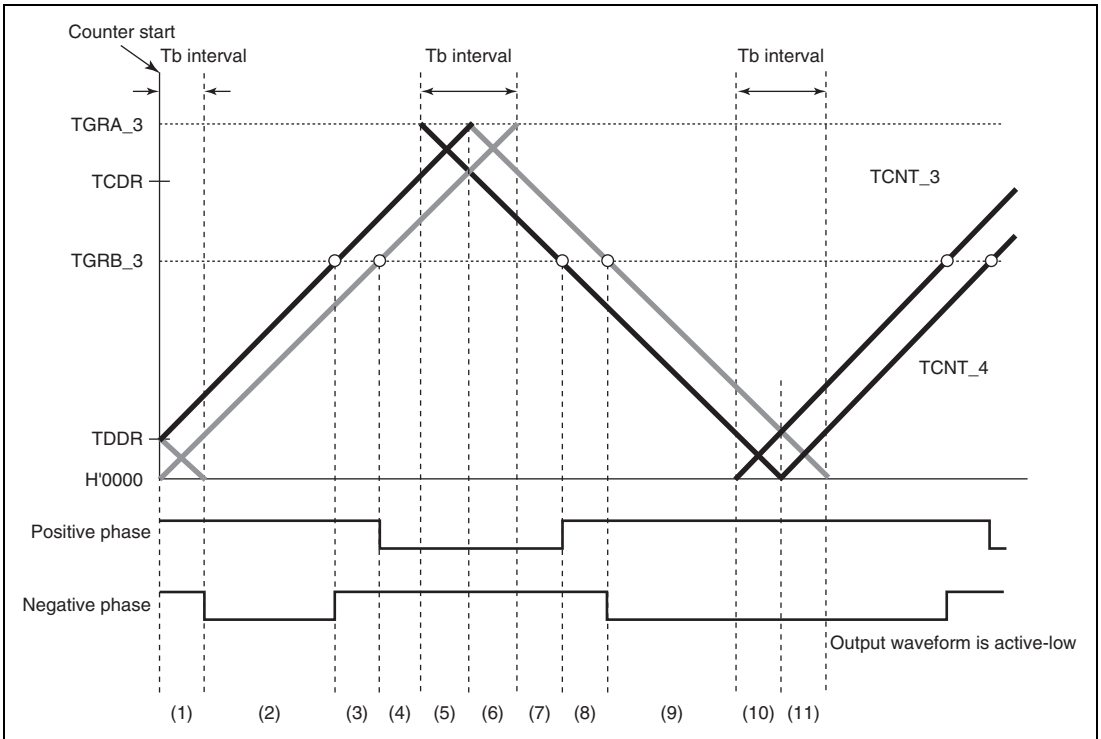
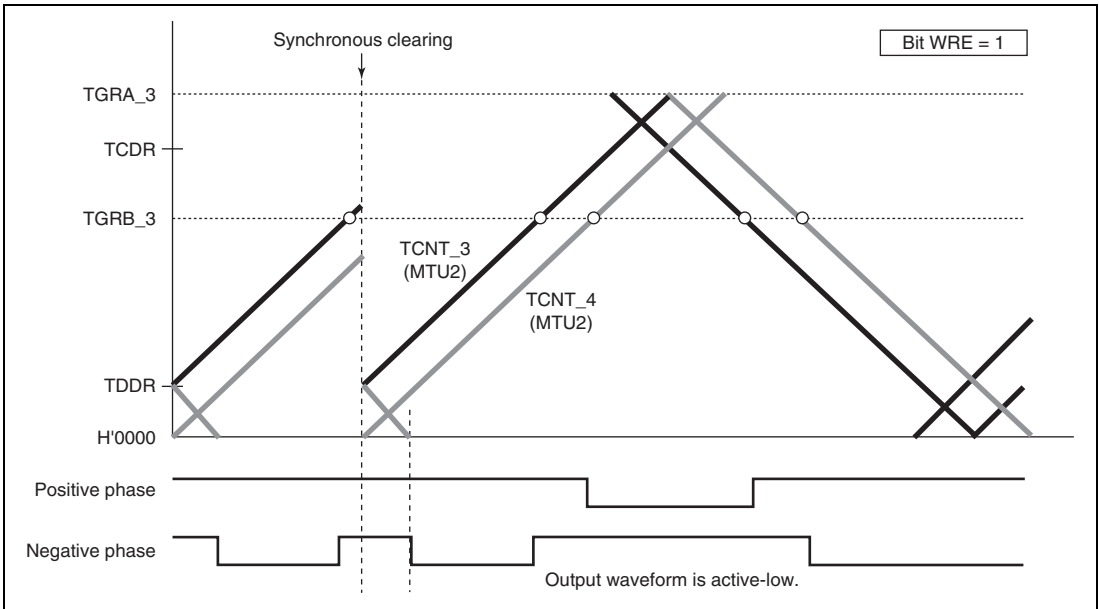

Figure 11.56 Timing for Synchronous Counter Clearing
Figure 11.58 Example of Synchronous Clearing in Dead Time during Up-Counting (Timing (3) in Figure 11.56; Bit WRE of TWCR in MTU2 Is 1)
Initial output suppression is applicable only when synchronous clearing occurs in the T_b interval at the trough as indicated by (10) or (11) in figure 11.56. When synchronous clearing occurs outside that interval, the initial value specified by the OLS bits in TOCR is output. Even in the T_b interval at the trough, if synchronous clearing occurs in the initial value output period (indicated by (1) in figure 11.56) immediately after the counters start operation, initial value output is not suppressed.
Figures 11.58 to 11.61 show examples of output waveform control in which the MTU2 operates in complementary PWM mode and synchronous counter clearing is generated while the WRE bit in TWCR is set to 1. In the examples shown in figures 11.58 to 11.61, synchronous counter clearing occurs at timing (3), (6), (8), and (11) shown in figure 11.56, respectively.
Figures 11.64 to 11.67 show examples of operation in which the MTU2S operates in complementary PWM mode and MTU2–MTU2S synchronous counter clearing is suppressed by setting the SCC bit in TWCR in the MTU2S to 1. In the examples shown in figures 11.64 to 11.67, synchronous counter clearing occurs at timing (3), (6), (8), and (11) shown in figure 11.56, respectively.
(Timing (6) in Figure 11.56; Bit WRE Is 1 and Bit SCC Is 1 in TWCR of MTU2S)**